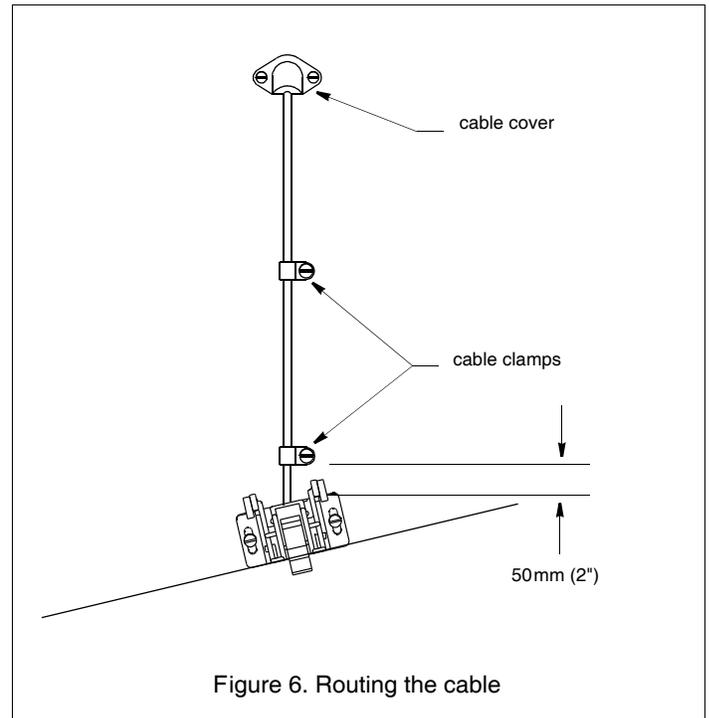

Figure 6. Routing the cable
3. On the outside of the hull secure the cable to the transom using the cable clamps. Position a cable clamp 50mm (2") above the bracket and mark the mounting hole with a pencil (see Figure 6).